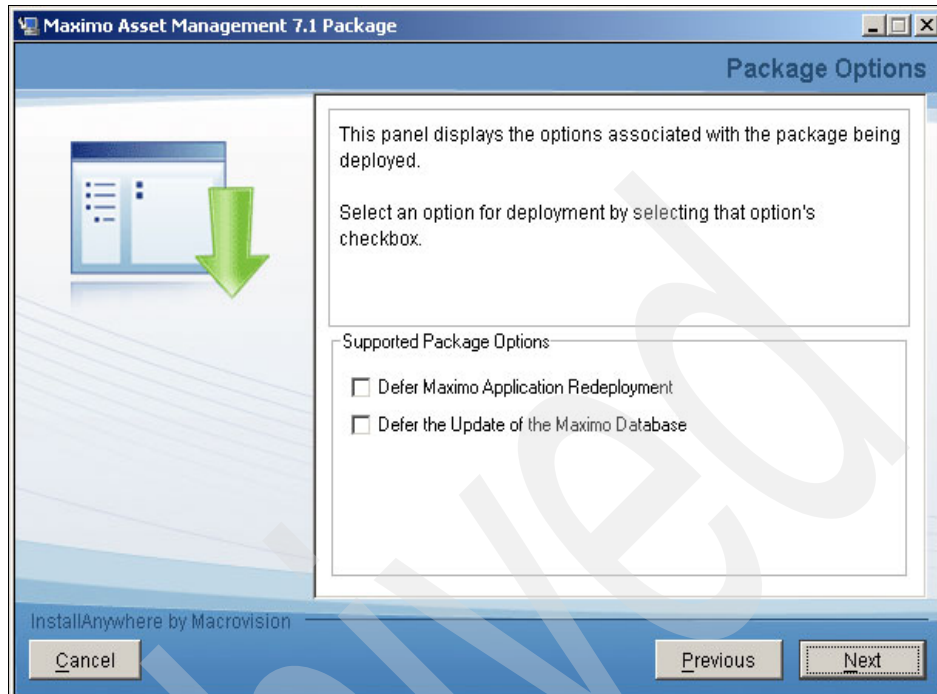

Figure 5-31 Package Options
4. After the credentials have been verified, a Package Options panel (see Figure 5-31 on page 107) is displayed that details the deployment options that the package supports. Leave both the **Supported Package Options** boxes unchecked to deploy the EAR files and update the Maximo database with the Process Solution installation program, and click **Next**.